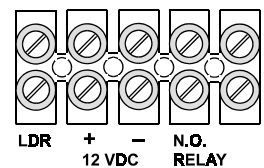

Figure 3. Terminal Block
- Feed wiring through the selected entryway, pass upward through the opening and connect to the terminal block (see Figure 3).